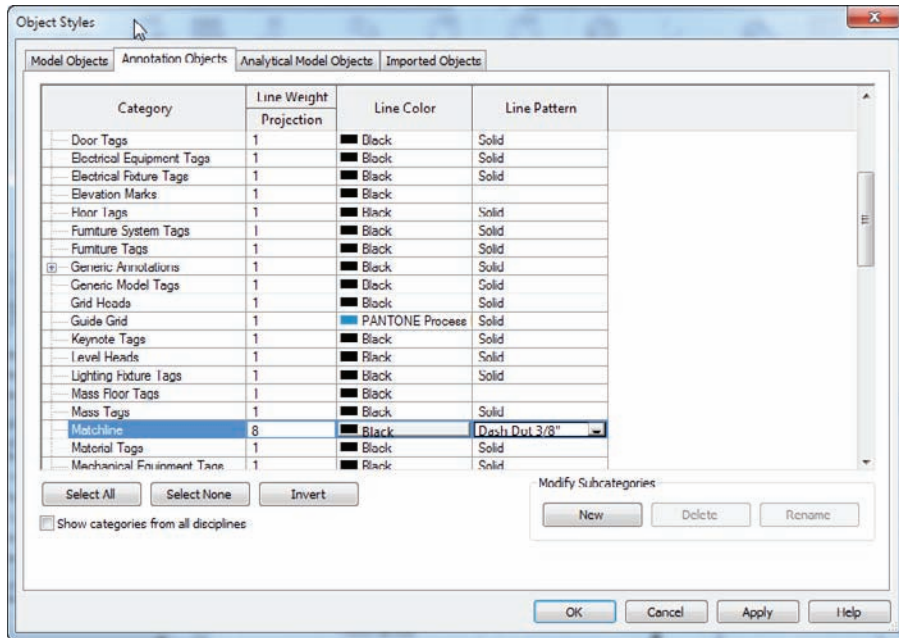

FIGURE 13.11 Changing the Matchline line pattern to Dash Dot 3/8"
2. Click the Annotation Objects tab, as shown in Figure 13.11.
5. After you click into the cell, you'll see a menu arrow. Click it, and select Dash Dot 3/8" (see Figure 13.11).